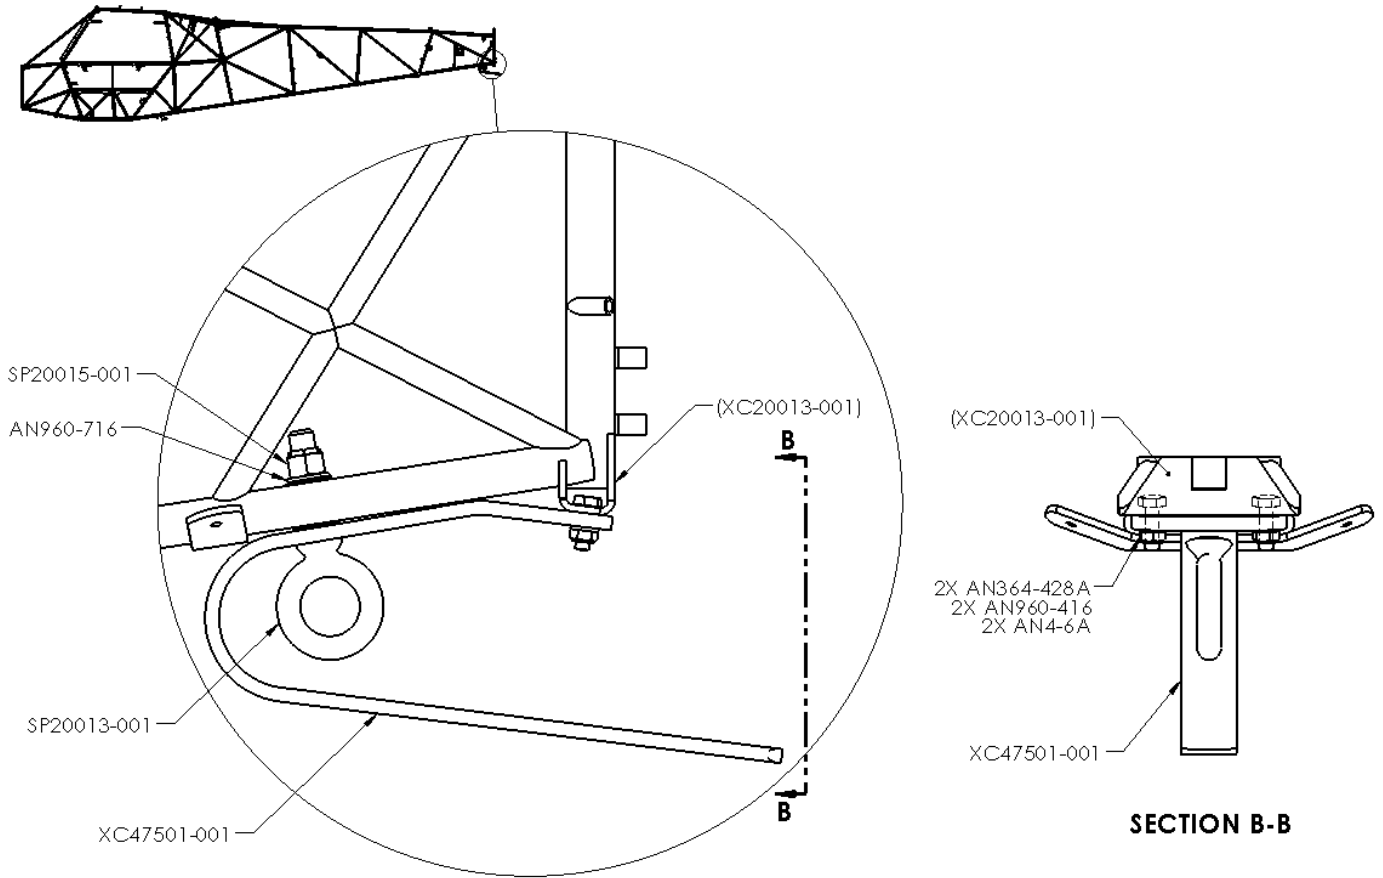

Figure 29 – Tail Skid & Rudder Springs
39. Remove tailwheel assembly, including leaf springs and hardware attaching tailwheel to fuselage. Install tail skid in accordance with Figure 29.